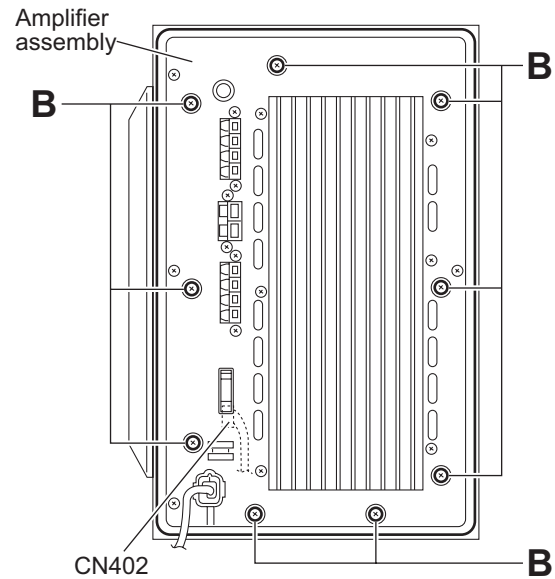

Fig.2
- (2) Remove the nine screws **B** attaching amplifier assembly. (See Fig.2.)
- (3) Move the amplifier assembly backward and disconnect the wire from connector CN402 in the lower part of the amplifier assembly. (See Fig.2.)